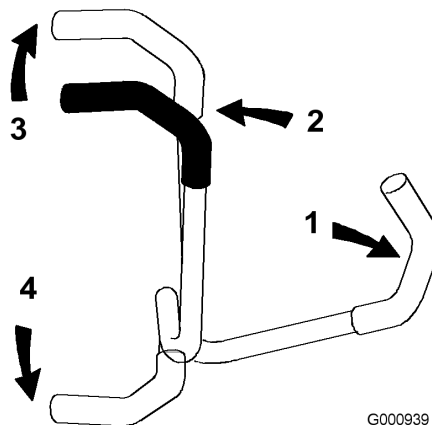

Figure 18
- To go forward, slowly push the motion control levers forward (Figure 18).
To go straight, apply equal pressure to both motion control levers (Figure 18).
To turn, move the motion control lever toward neutral in the direction you want to turn (Figure 18).
- To go backward, slowly pull the motion control levers rearward (Figure 18).
To turn, release pressure on the motion control lever toward the direction you want to turn (Figure 18).